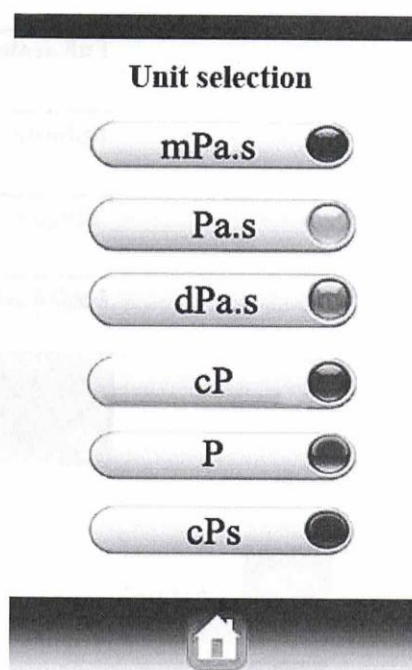

Fig. 4
3. Unit selection: click "》", Fig. 4 will be displayed.